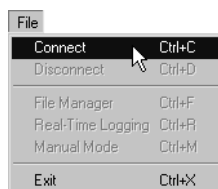

Figure 3-4. Click File ▶ Connect
3. Click **File ▶ Connect** (Figure 3-4).